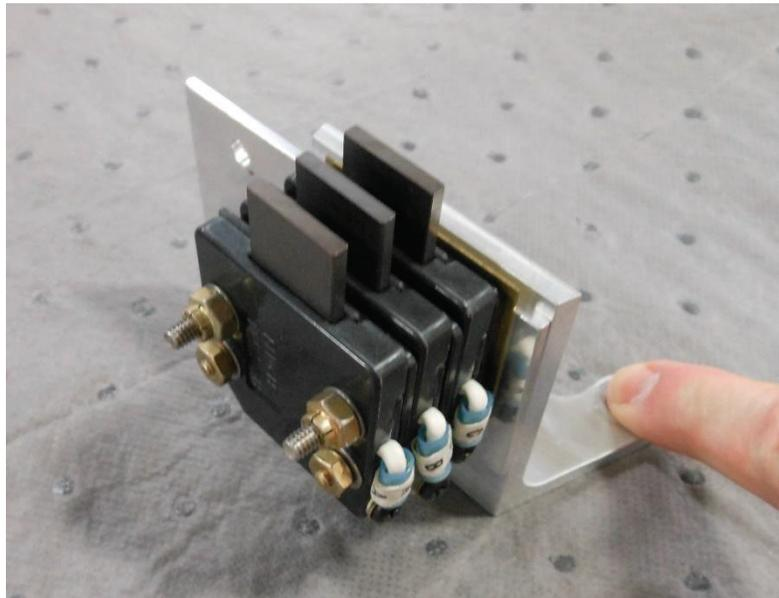

Figure 3
- d) Temporarily install P/N 3H2042-1 modular brush block assembly onto bracket using a B-3837-N832 washer and B-6655-08 nut on each bolt as shown in Figure 3. Do not torque at this time.